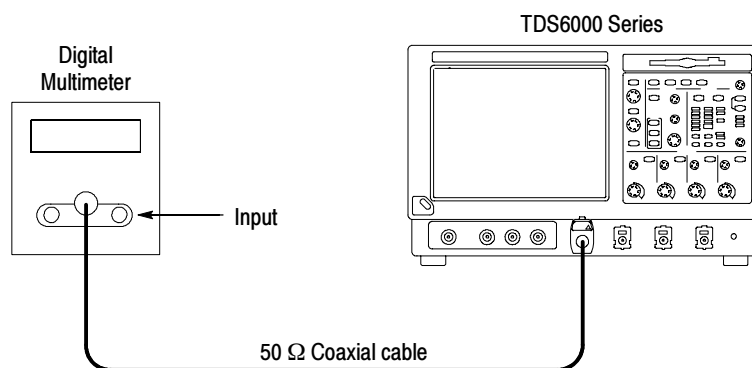

Figure 4-19: Initial test hookup
- a. *Hook up the test-signal source:* Connect, through a 50 Ω precision coaxial cable, the input of the multimeter to **CH 1** through adapters (see Figure 4-19).